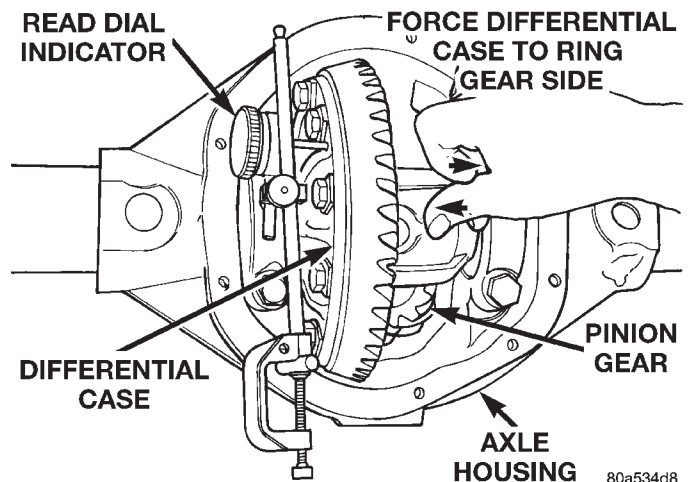

Fig. 72 Hold Differential Case and Read Dial Indicator
- (24) Push and hold differential case to ring gear side of the axle housing (Fig. 72).
- (25) Record dial indicator reading (Fig. 72).